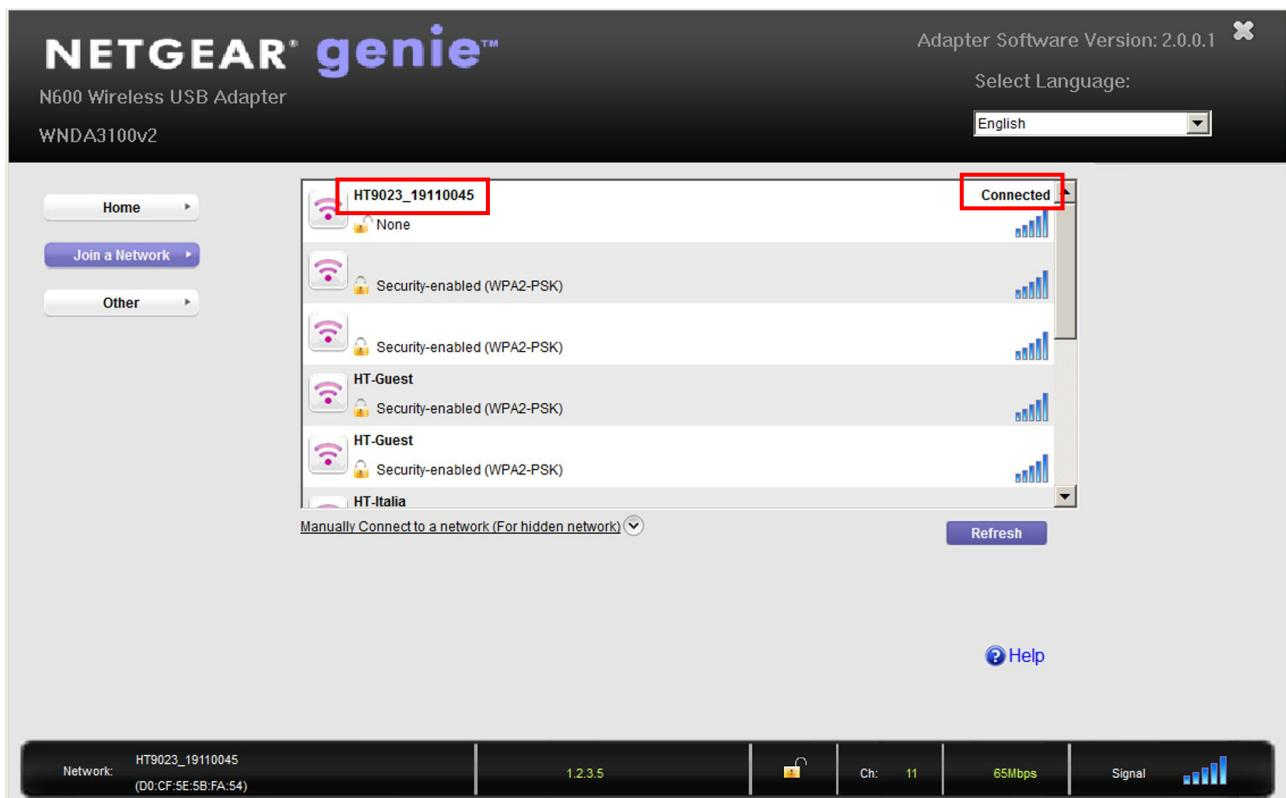

Fig. 15: WiFi connection of instrument to PC (example)
5. Search for the “**HT9023\_xxxxxxxxx**” instrument in the WiFi device included on the PC and connect it as shown as an example in the following Fig. 15